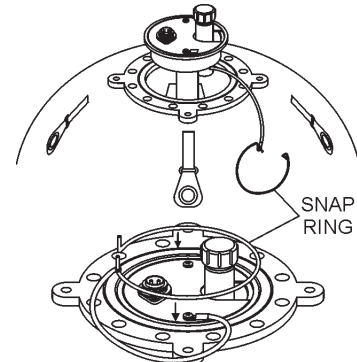

Figure 6. Installing the Lamp Fixture
6. Install the lamp fixture into the balloon. Set the snap ring (Figure 6) into the o-ring groove to ensure a complete seal of the balloon.